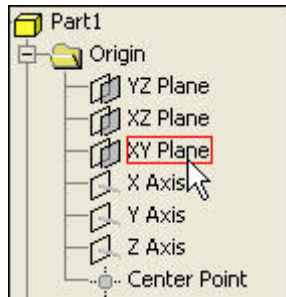
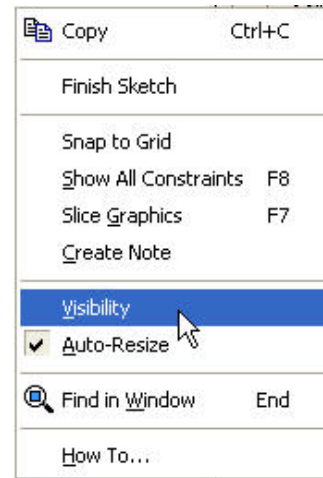

Figure 2
Figure 3
2. Click on the plus sign next to origin in the **Model** panel bar as shown in Figure 2. Click the right mouse button over the **XY Plane** and select visibility as shown in Figure 3.